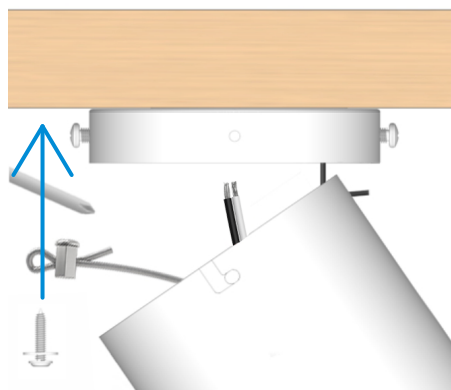

Fig. 6.3
**Option 2:** Refer to Fig. 6.3. Thread a screw, accompanied by a washer (both not included), through the center of the safety rope. Fasten the screw to the ceiling and then loosen the screw on the safety rope lock using a screwdriver. Pull the safety rope taut and then tighten the screw on the safety rope lock to securely anchor the safety rope to the fixed screw on the ceiling. Always double-check to ensure the safety rope is taut.